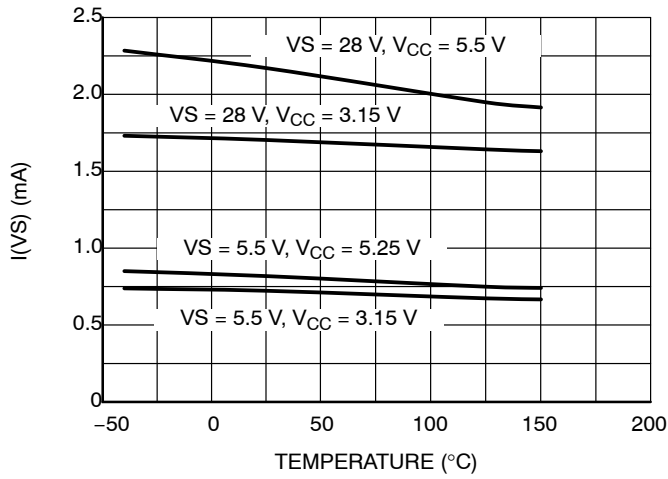

Figure 10. $I(VS)$ vs. Temperature
- Refer to Figure 10. I(VS) versus Temperature.